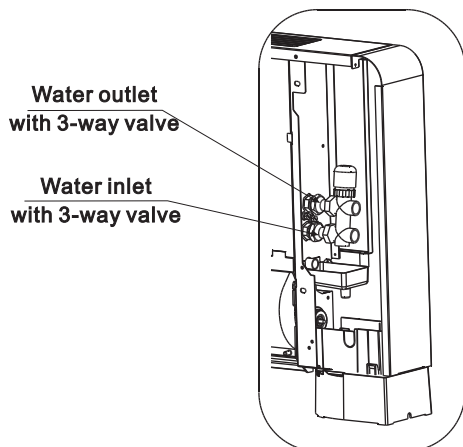
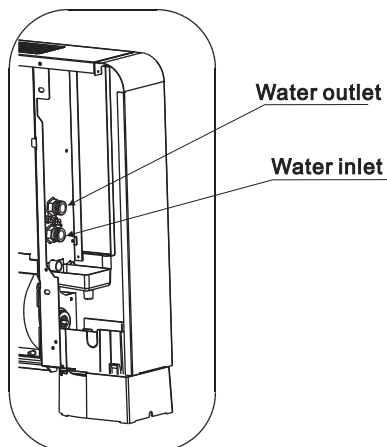

Fig. 13
Fig. 14
4.4.1 Refer to fig.13 and fig.14 to connect the inlet and outlet lines. The hydraulic lines and joints must be thermally insulated.